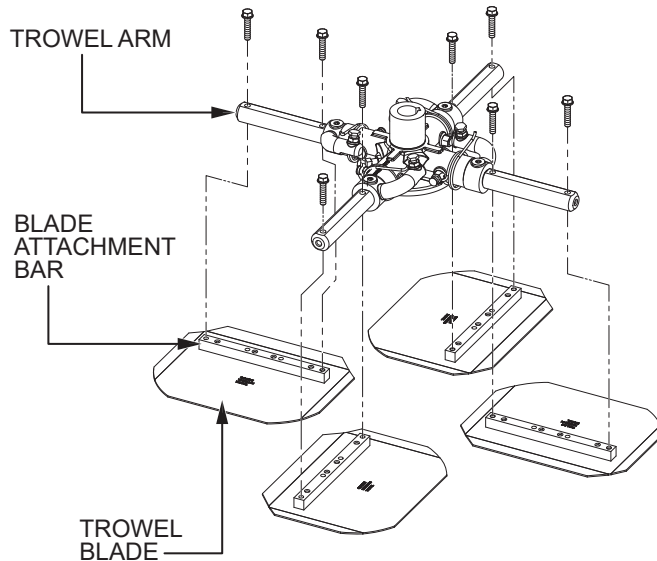

Figure 69. Blade Removal
2. Remove the bolts and lock washers from each of the trowel arms, then remove the blades as shown in Figure 69.